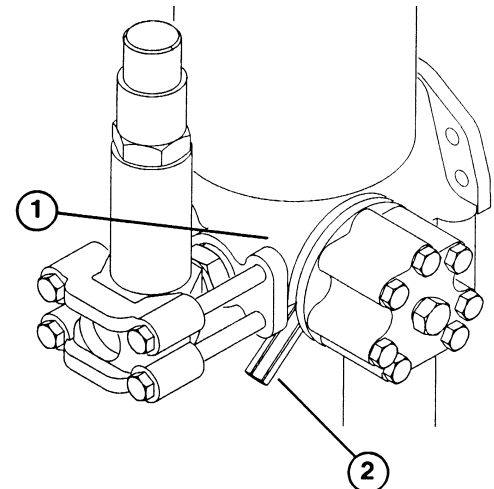

Figure 10
6. Reach under the hood and open the bleed valve on the main valve at rear of the machine (Fig. 10). Bleed the system until a steady flow of water comes from the outlet, then close the valve.